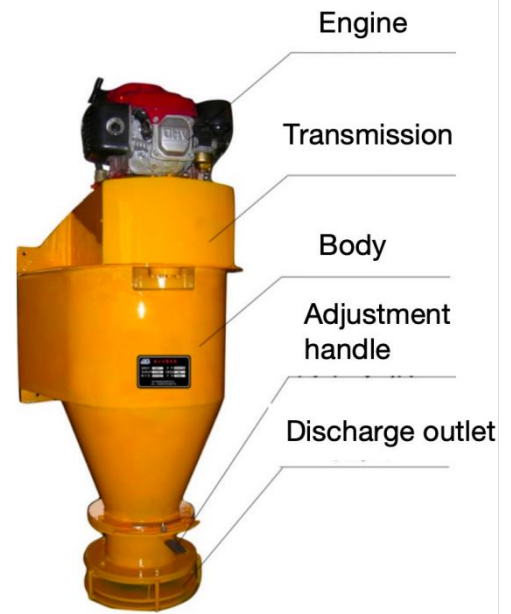

Figure 1
The machine consists of major components such as the engine, transmission, body, adjustment handle and discharge outlet (see Figure 1). Mount the installation bracket on the rear bumper of the vehicle (see Figure 2).
1. Pull out the rotating lock handle shown in Figure 1, and sequentially rotate the four support legs to position the leg supports facing the ground. Then push the lock handle back in.
4. Sequentially rotate the four handles shown in Figure 1 to lower the frame onto the rear vehicle frame's straight beam, ensuring the four support legs are lifted off the ground.
2. Turn on the alarm indicator light shown in Figure 1
5. Use the bolts removed from the sweeper brush assembly to securely fasten the snow thrower to the front mounting mechanism (see Figure 1).
2. Adjust the height of the snow thrower above the ground using the sweeper's brush lift switch (see Figure 1).